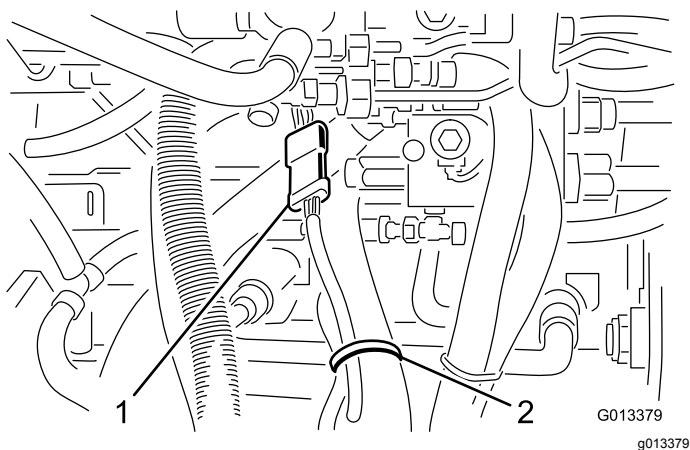

Figure 4
7. Locate and unplug the cutting-unit wire harness from the traction unit wire harness (Figure 4).